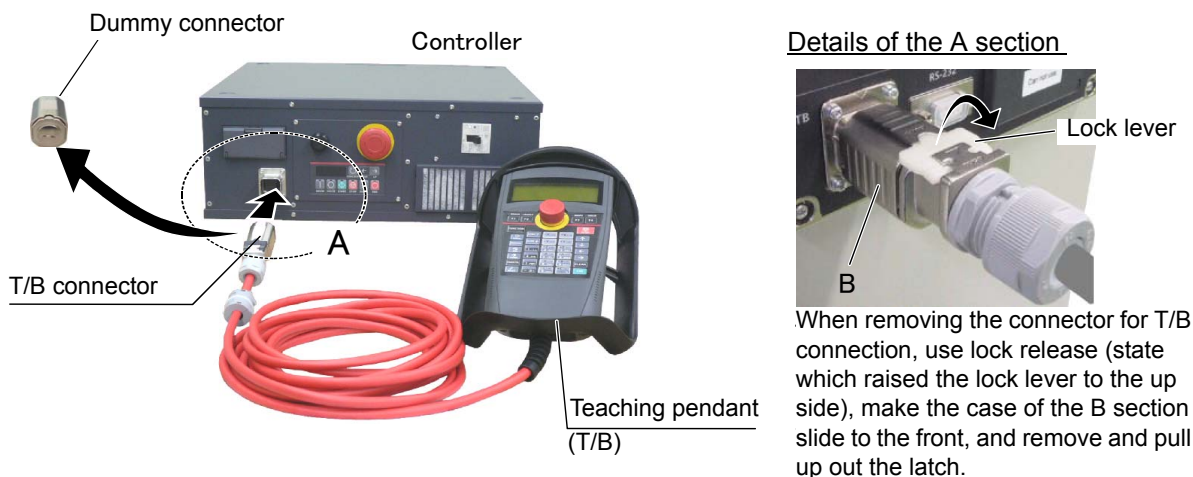

Fig.2-9 : Installing and removing the T/B (CR750 controller)
- 2) Connects T/B connector to the robot controller. Use as the upper surface the lock lever shown in Fig. 2-9, and push in until there is sound.